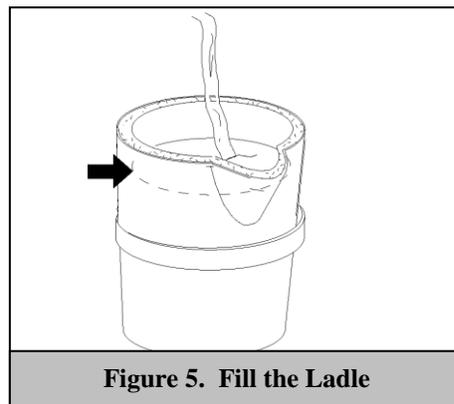

Figure 5. Fill the Ladle
Step 5: Fill the ladle with the molten metal. (See Figure 5.) Care must be taken to prevent overflowing to the point where spilling may occur. Refer to the current ANSI Z241.2 specifications and the ladle assembly drawing (see **Appendix E**).